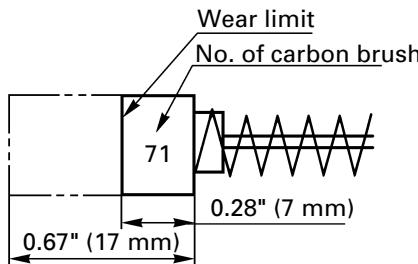

Fig. 20
## 4. Inspecting the carbon brushes: (Fig. 20)
**NOTE:** Use HITACHI carbon brush No.71 indicated in Fig. 20